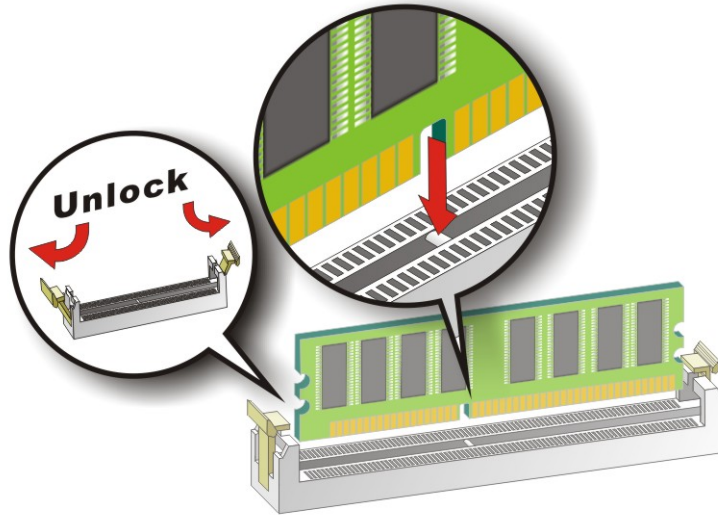

Figure 4-6: DIMM Installation
To install a DIMM, please follow the steps below and refer to **Figure 4-6**.
- Step 1:** **Open the DIMM socket handles.** Open the two handles outwards as far as they can. See **Figure 4-6**.
- Step 2:** **Align the DIMM with the socket.** Align the DIMM so the notch on the memory lines up with the notch on the memory socket. See **Figure 4-6**.
- Step 3:** **Insert the DIMM.** Once aligned, press down until the DIMM is properly seated. Clip the two handles into place. See **Figure 4-6**.